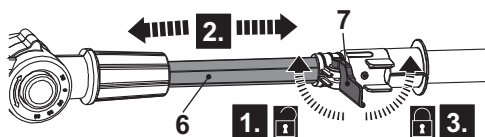

Fig. 9
1. Loosen the locking lever (7) (Fig. 9, step 1).
2. Adjust to the required length by pulling out or pushing in the pole extension (6) (Fig. 9, step 2).
3. Secure the position of pole extension (6) by fastening the locking lever (7) back to its original position (Fig. 9, step 3).